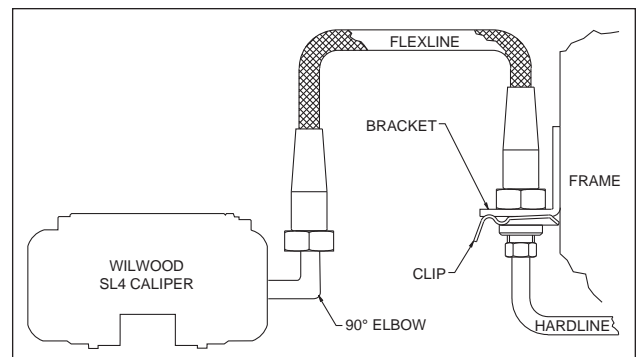

Figure 4. Brake Line Diagram
- Install Wilwood's optional stainless steel braided flexline hose kit, part number 220-8173 for C-5, 220-9101 for C-6 (NOT included in kit), see Figure 4. **NOTE:** OEM rubber brake hoses generally cannot be adapted to Wilwood calipers. The caliper inlet fitting is a 1/8-27 NPT. The preferred method is to use steel adapter fittings at the caliper, either straight, 45 or 90 degree and enough steel braided line to allow for full suspension travel and turning radius, lock to lock. **Carefully route lines to prevent contact with moving suspension, brake or wheel components.** Wilwood hose kits are designed for use in many different vehicle applications and it is the installer's responsibility to properly route and ensure adequate clearance and retention for brake hose components.